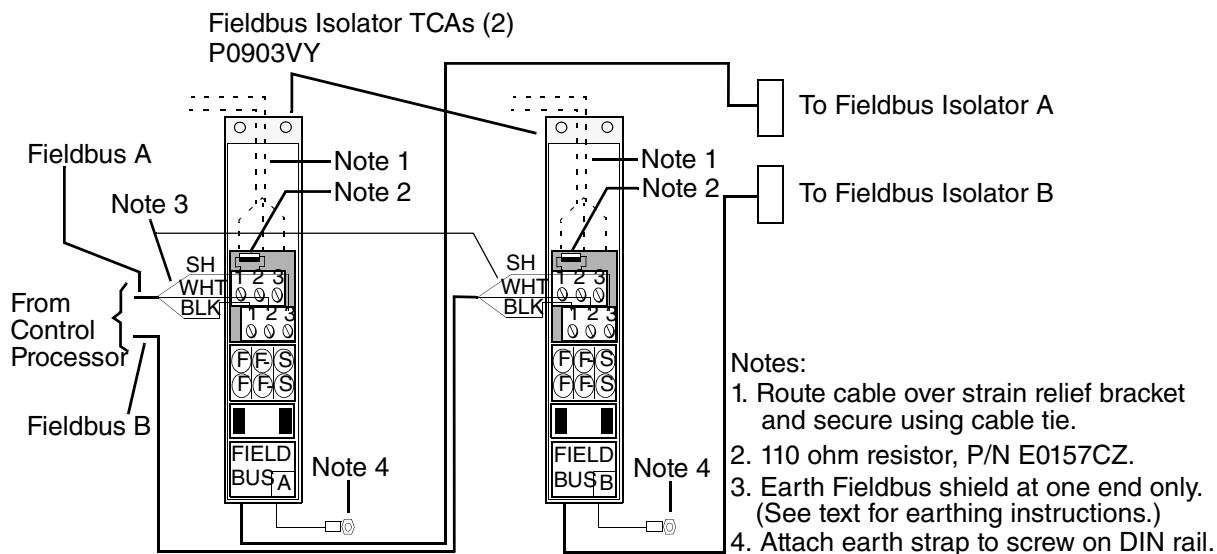

Figure 2-42. Fieldbus Cabling at the DCS Fieldbus Module Subsystem
3. Connect the Fieldbus cables (A and B) to the Fieldbus Isolator TCAs, as shown in Figure 2-42. (If the Fieldbus is non-redundant, only one Fieldbus cable (A) connects to a Fieldbus Isolator TCA.) If the Fieldbus is redundant, Fieldbus A connects to the Fieldbus Isolator jumpered for channel A, and Fieldbus B connects to the Fieldbus Isolator jumpered for channel B.